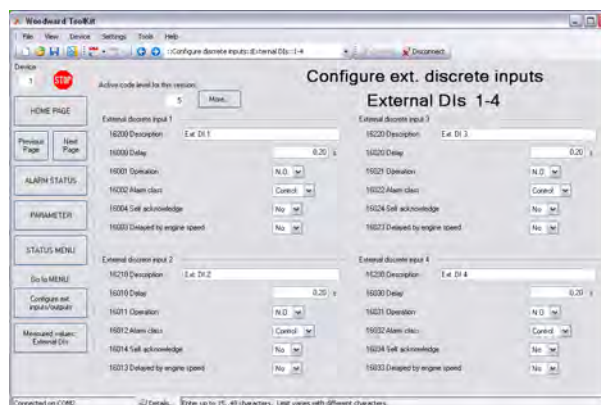

Fig. 195: Setup of external DIs
- ➔ Set up the external discrete inputs using the ToolKit screen shown in (Fig. 195).